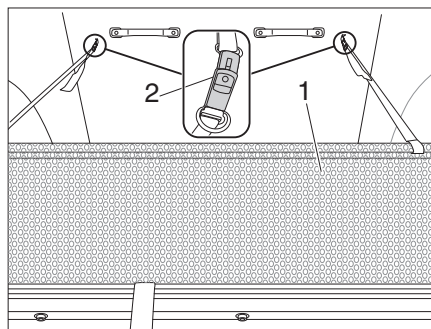

Fig. 21 Falling-out protection
- Pull the safety guard (Fig. 21,1) out from under the mattress.
- Secure the safety guard to the pop-up roof with the strap buckle (Fig. 21,2).
- Releasing the strap buckle (Fig. 21,2).
- Stow the safety guard (Fig. 21,1) under the mattress.